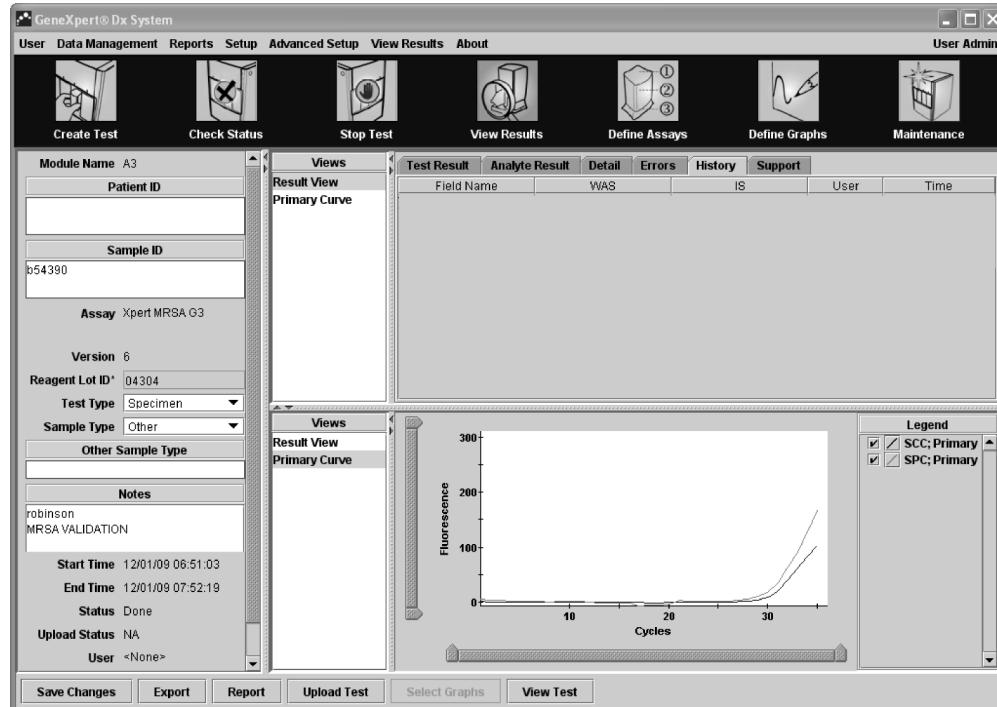

Figure 5-35. GeneXpert Dx System, History tab window selected
2. Click the **History** tab in the View Results screen. The history window is displayed (Figure 5-35).